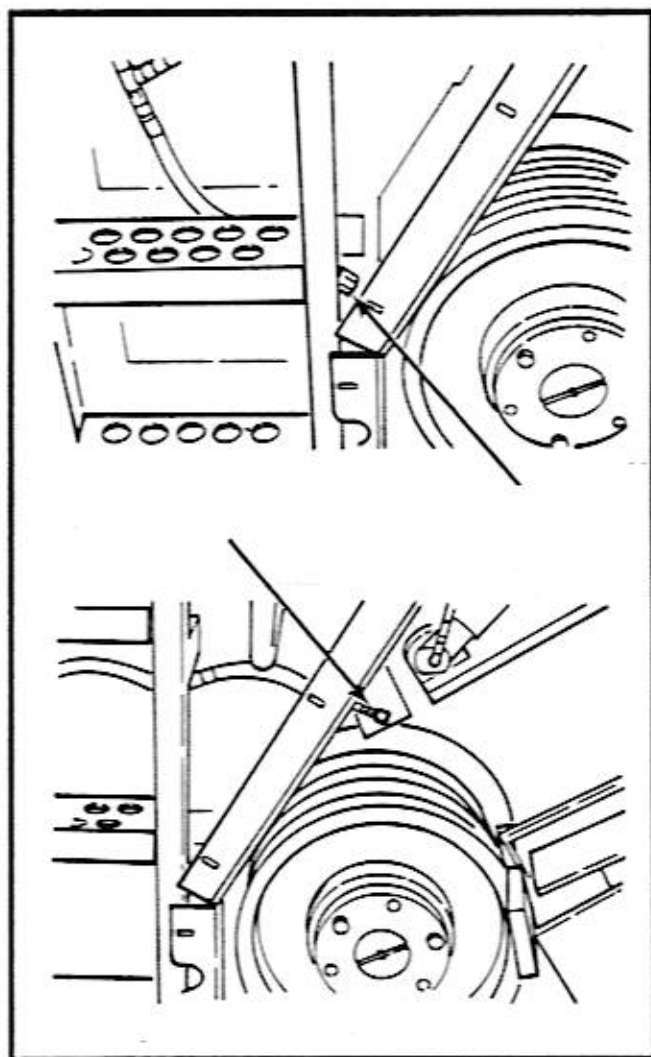

Figure 9-1. Cutter Planetary Check Plugs
1. Remove the water spray nozzles (left side of cutter drum) at the 9 o'clock and the 12 o'clock positions. Refer to Figure 9-1.